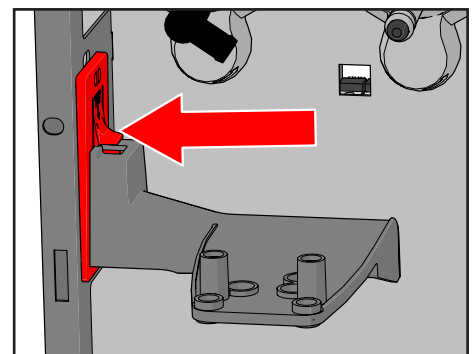
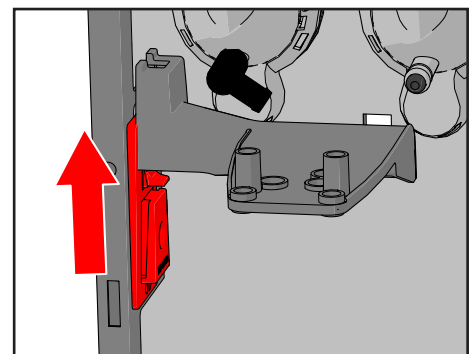

Figure 35.
Figure 36.
6. Detach the outlet arm from the cabinet. Press the locking device and slide upwards (see Figure 35 and Figure 36).